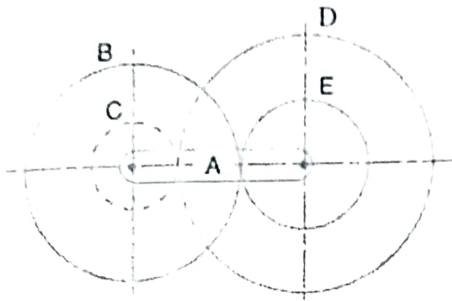

Fig. 3
- (B) Determine the maximum permissible angle between the shaft axes of a universal joint if the driving shaft rotates at 800 rpm and the total fluctuation of the speed does not exceeds 60 rpm. Also compute maximum and minimum speeds of driven shafts. 06
4. (A) In an open belt drive, the diameters of the larger and smaller pulley are 1.2 m and 0.8 m respectively. The smaller pulley rotates at 320 rpm. The center distance between the shafts is 4 m. When stationary, the initial tension on the belt is 2.8 kN. The mass of belt is 1.8 kg/m and the coefficient of friction between the belt and pulley is 0.25. Determine the power transmitted. 10
- (B) A cord wrapped around a solid cylinder of radius 'r' and mass 'm'. The cylinder is released from rest. Determine the velocity of its centre of mass after it has moved down a distance 'h'. 10
5. (A) Fig 3 shows a reverted epicyclic gear train, the arm A carries two gears B and C and a compound gear D – E. The gear B meshes with gear E and the gear C meshes with gear D. The number of teeth on gears B, C and D are 75, 30 and 90 respectively. Find the speed and direction of gear C when gear B is fixed, and the arm A makes 100 r.p.m. clockwise 10